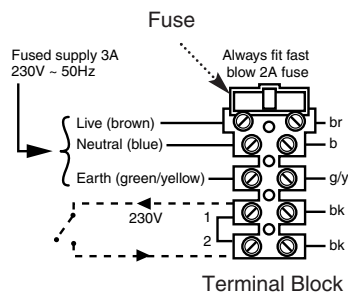

Fig. 32
7. To connect external control(s) remove the link between terminals 1 & 2. The 230V supply at terminal 1 can be connected to the external control as shown. The switched output from the external control must be connected to terminal 2. (Figs. 32).
NOTE: If the room thermostat being used incorporates an anticipator it **MUST** be wired as shown in Fig. 32.